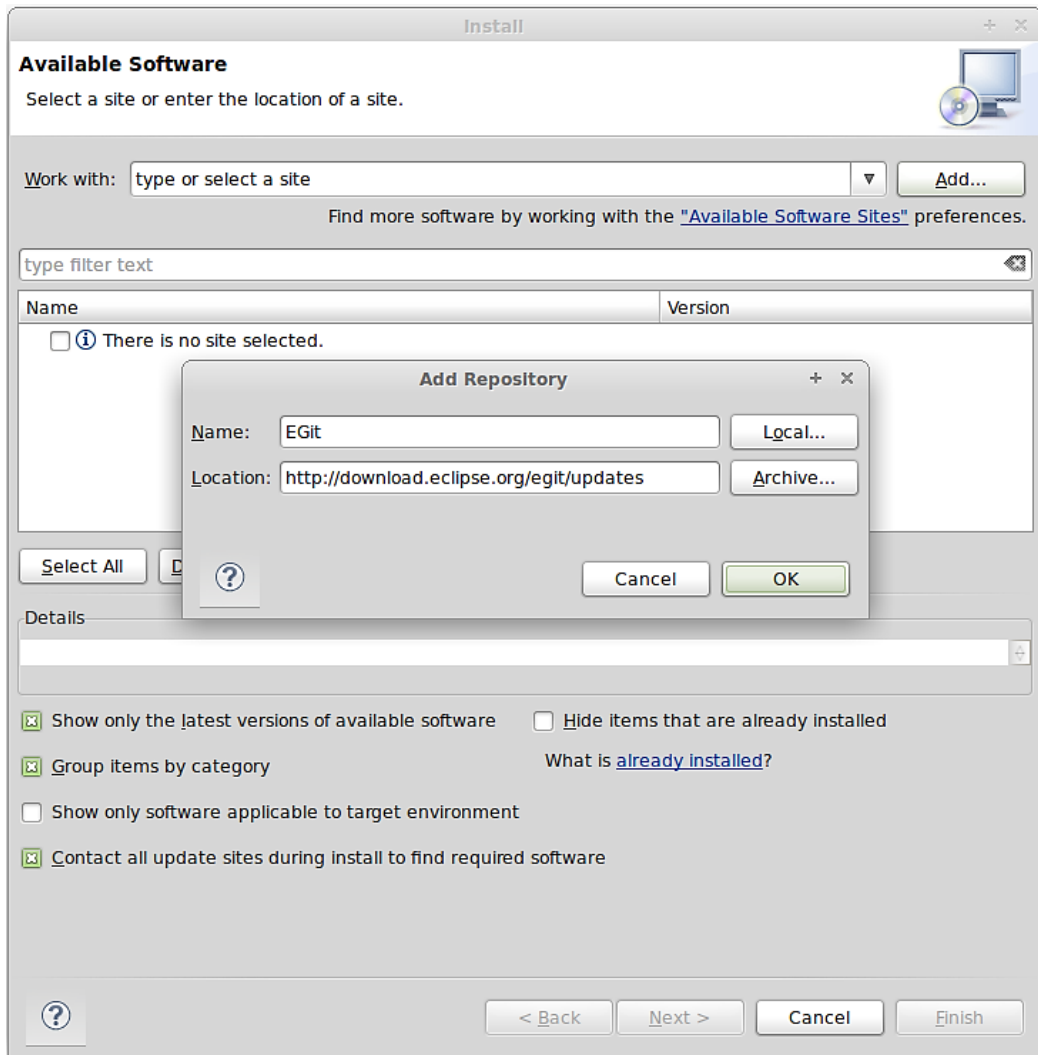

Figure 11: Installing Eclipse EGit Plug-in (continued)
- As shown in Figure 11, enter the following: